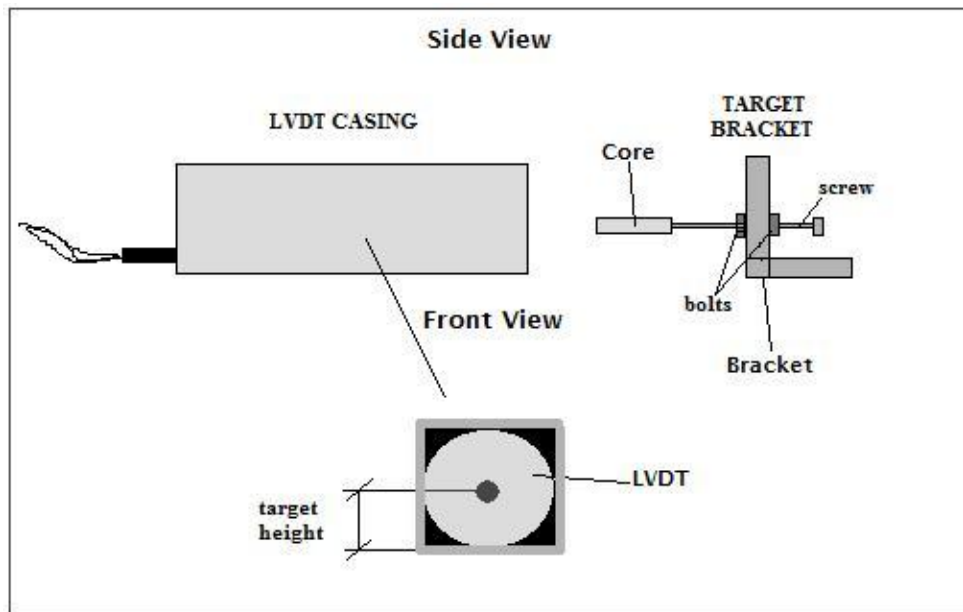

Figure A 16: LVDT Construction Diagram
3. The target bracket needs to be constructed from 1"x1" L-shaped aluminum tubing, a 4/40" screw, two 4/40" bolts, two #4 washers, and the LVDT core as shown in Figure A 16. This bracket serves to hold the LVDT target in place on the opposite side of the crack being monitored. The first step is to cut an appropriate bracket from aluminum "L" tubing on a horizontal bandsaw. A good approximation is to cut a bracket the same length as the width of the LVDT casing (1"). Then, the target position must be determined by precisely measuring the height to the center of the LVDT from the exterior tubing. This will ensure that the target will be aligned accurately with the LVDT. Using a drill press or other equipment bore a hole through this location that is larger than the 4/40" screws but smaller than the bolt and washer diameters. This bracket should be sanded and cleaned once it is machined. Next, a screw must be mounted to the bracket with 4/40" nuts and #4 washers on both sides.